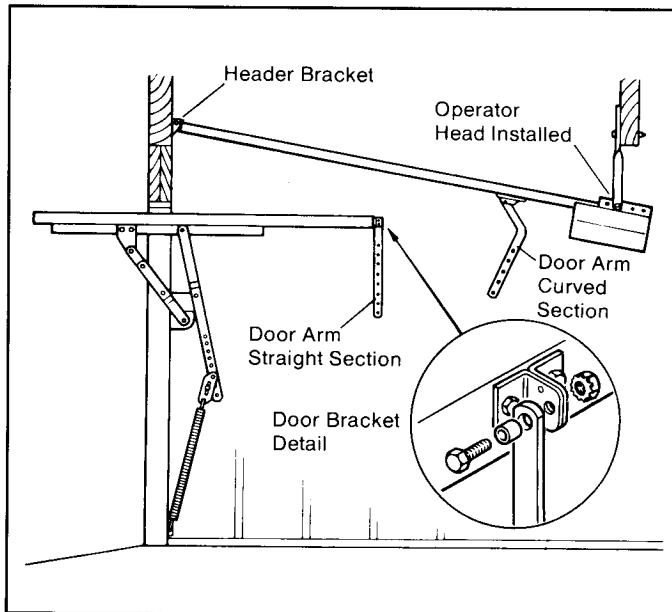

Figure 25. Door Bracket and Door Arm Installation.
Step 8: Locate center line of door. Refer to Figure 8, Page 7. Next, install door bracket on center line as close as possible to the top edge of the door. Use carriage bolts and keps nuts (See Figure 25).
Step 9: Slide the door bushing onto the 5/16" x 1" bolt provided. Next, hold the straight door arm up to the door bracket already mounted and align the proper holes up. See Figure 25. With the other hand, insert the bolt into the aligned holes and secure with the 5/16"-18 keps nut. Make sure the door bushing seats squarely inside the door arm hole. At this point, tighten the keps nut on the header bolt.